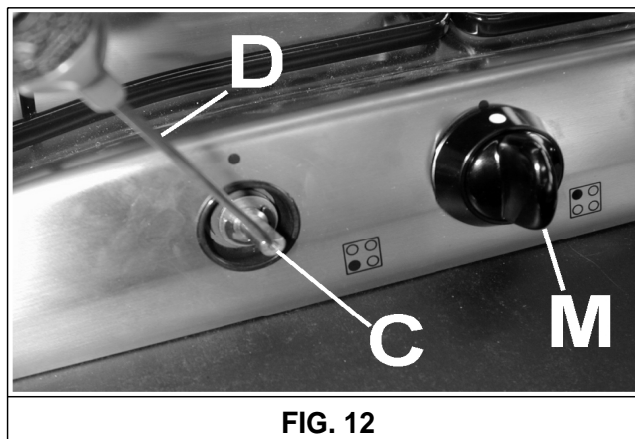

FIG. 12
- Switch on the burner and turn the relative knob to the "Reduced rate" position (small flame fig.12).
- Remove knob "M" (fig. 12) of the tap, which is simply pressed on to its rod.
- Insert a small screwdriver "D" into hole "C" (fig. 12) and turn the throttle screw to the right or left until